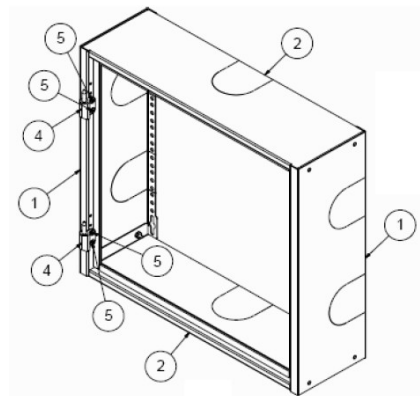

Figure 4
**Step 4:** Lay the remaining side panel on a flat surface, then pick up the 3 piece assembly, (2 side and 1 end panel) With the neoprene gasket facing toward you, tilt the 3 piece assembly toward you and align the side panel holes to the mounting studs on the remaining end panel. Keep the Neoprene gasket edge facing the same direction as the other parts (See Figure 4). Using two of the supplied #10-32 nuts with tooth lock washer hand tighten the nuts until snug.
**Step 5:** With the SecurePATCH™ base unit complete lay the Side Panel with both End Panels hand tightened down, so that the Neoprene edge is facing up. Once all (8) nuts have been hand tightened with the supplied #10-32 nuts with tooth lock washer tighten the nuts with the adjustable wrench (Do not over tighten!).
**Step 6:** Determine the direction you need the door to swing. Then install the male hinges to the left or right side of the base unit as shown in figure (5).